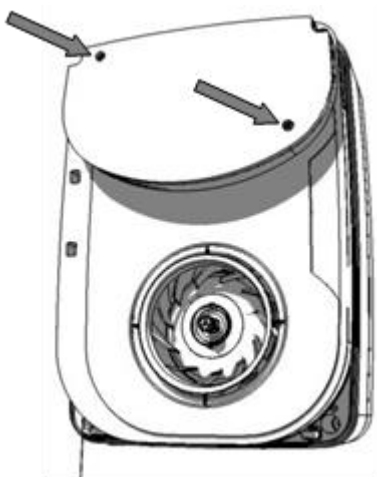

Figure 17
12. Secure the electrical compartment cover with the two screws (Figure 17).